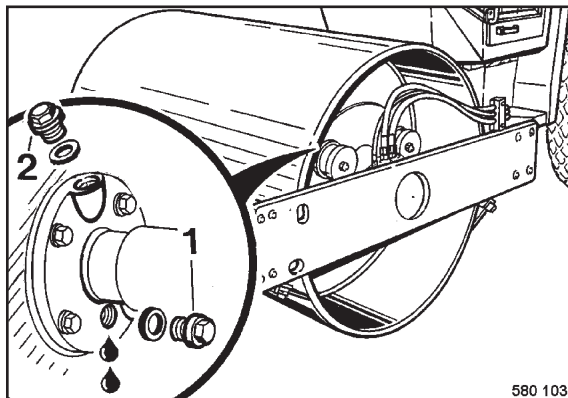

Fig. 136
- Once the oil has run out move the drum until the oil level control opening 1 (Fig. 136) is vertically below the hub.